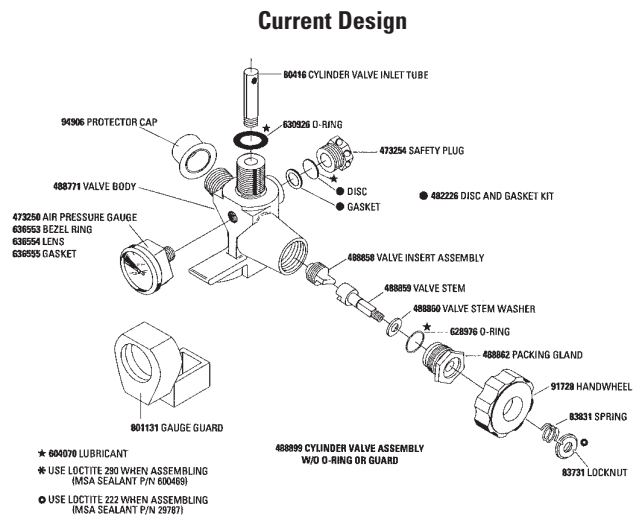

Figure 2: Current Cylinder Valve Assembly
1. Place a thin film of Snoop on all new burst discs. (2216, 3000, and 4500 PSI Cylinder Valves). Refer to figure 2 for more information.